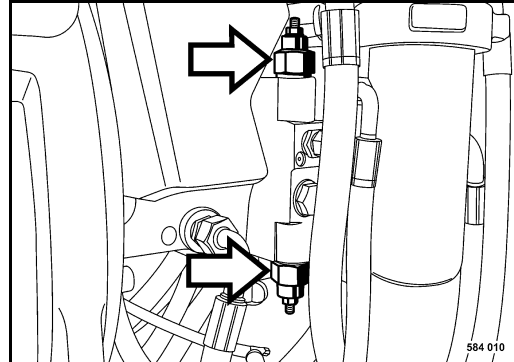

Fig. 110
- Slacken the counter nuts on both high pressure relief valves (Fig. 110) to create a by-pass around the travel pump.